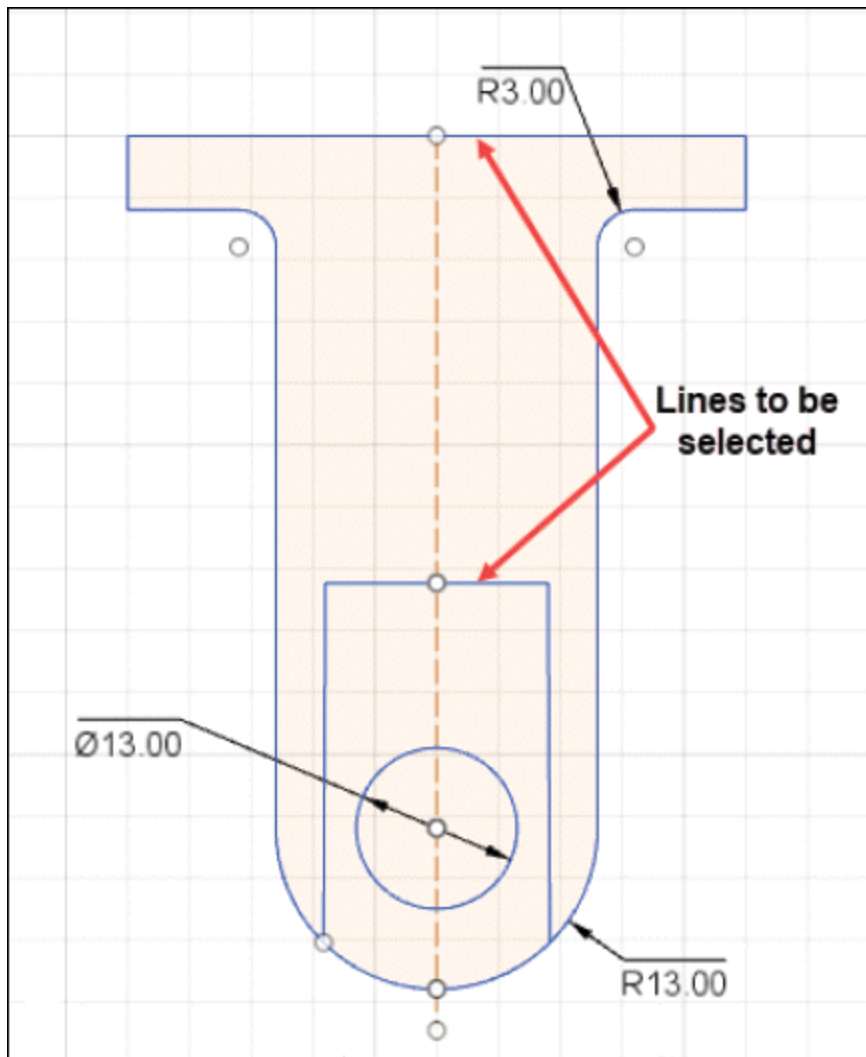

Figure-120. Lines to be selected for dimensioning
- Click on the two lines as shown in Figure-120.